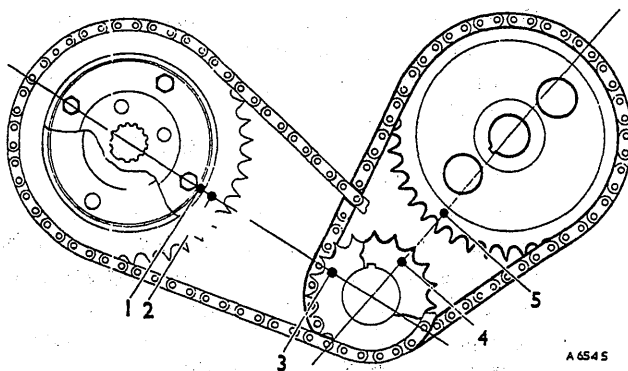

Fig. A.12
- (15) Rotate the crankshaft until the timing marks on both camshaft driving chain wheels are in the position shown in Fig. A.12.
- (16) Unscrew the nut from the end of the camshaft, using tool 18G 98 A.
- (17) Unscrew the two bolts and remove the camshaft driving chain tensioner.
- (39) Reverse the procedure in (16) to (19), noting the following points:
- When the driving chain and wheels are assembled to their respective shafts ensure that the timing marks line up as shown in Fig. A.12.
- (40) Reverse the procedure in (9) to (14), noting the following points:
- Check and adjust the chain wheel alignment as described in (39) (a), but in this case the teeth faces should be in line.
- The timing marks on both chain wheels and on the injection pump driving flange should be positioned as shown in Fig. A.12 when they are assembled to the engine.
- Refit the chain tensioner as described in (39) (c).
- (17) Fit the main bearings and thrust washers to the crankcase and caps, fit the crankshaft and caps to the crankcase; tighten the main bearing cap bolts to the torque figure given in 'GENERAL DATA'.
- (18) Refit the front plate and timing gear by reversing the procedure in Section A.9, (25) to (28), (7) to (19), and (2) to (5), noting the following points:
- (a) Check the chain wheel alignment as described in Section A.9, (39) (a) and (40) (a).
- (b) Refit the timing chain tensioners as described in Section A.9, (39) (c).
- (c) Ensure that the timing marks line up as shown in Fig. A.12.
- (19) Ensure that the connecting rod big-end bearings are correctly located in the rods and caps. Refit the connecting rods to the crankshaft noting that the bolt heads should be towards the camshaft side of the engine, and tighten the bolts to the torque figure given in 'GENERAL DATA'.